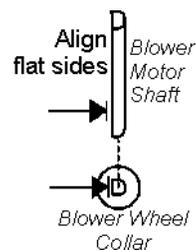

Figure 4-2
11. Install the blower wheel onto the motor shaft, aligning the d-shaped flat sides of each. See Figure 4-2. Secure the blower wheel with the wingnut. Make sure the wheel turns freely.